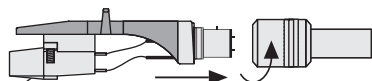

Fig. 1: Mounting the headshell
- 1 Take the headshell out of one of the two lateral polystyrene wrappings, place it onto the front end of the tone arm, and secure it with the locking nut (Fig. 1).